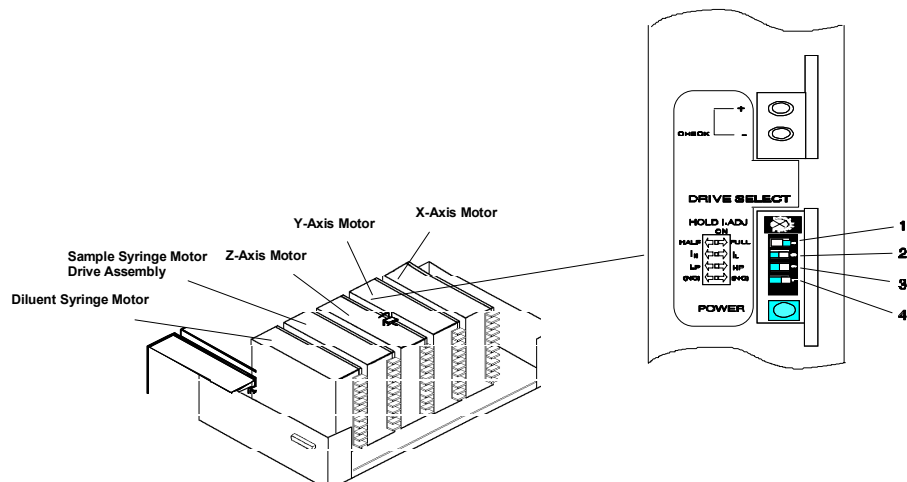

Figure 5-9. Dip Switch Settings
| Figure 5-9. | Dip Switch Settings | 5-9 |
3. Set the Drive Select Switch of the motor driver to the positions shown in Figure 5-9.